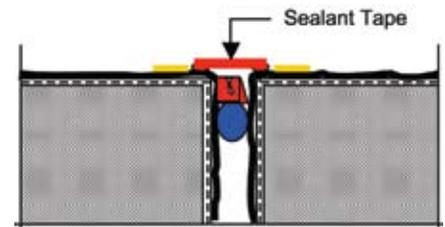

Fig. 4
5. Immediately unroll and lay the sealant tape into the wet adhesive and press into place with a vinyl roller. Remove any adhesive that squeezes past the edges of the sealant tape. Then remove the masking tape and tool the adhesive along the edges of the tape (Fig. 4).